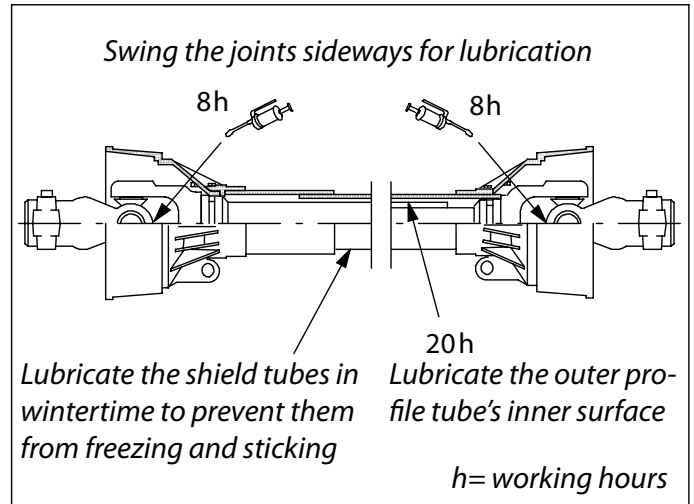

Fig. 15. Lubrication points and intervals for the PTO shaft
- Lubricate the PTO shaft prior to operation and regularly, as shown in Fig. 15.